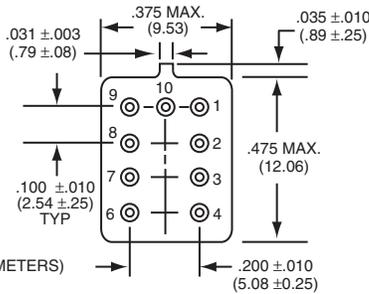

**FIGURE 2**
Contact Load Ratings (DC) (See Fig. 2 for other DC resistive voltage/current ratings)	Resistive: 1 Amp/28Vdc Inductive: 200 mA/28Vdc (320 mH) Lamp: 100 mA/28Vdc Low Level: 10 to 50 µA/10 to 50mV